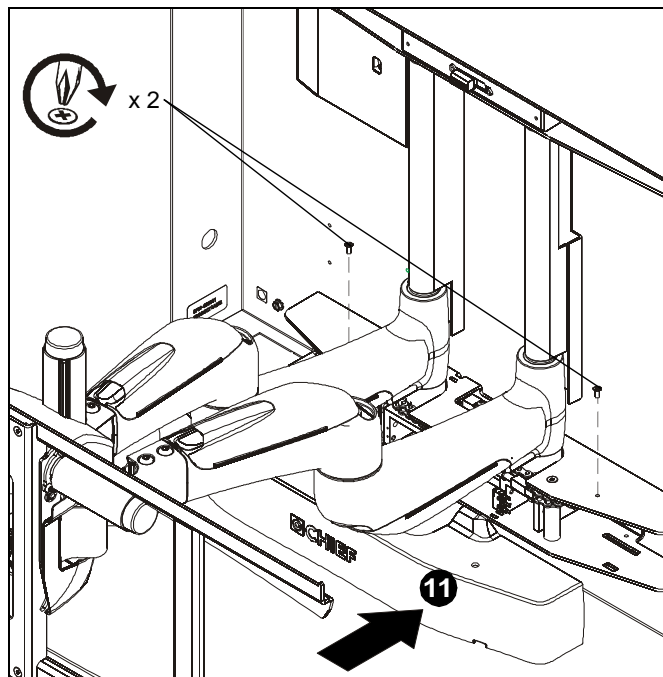

Figure 20
11. Replace lower cover and secure with two Phillips head screws removed in Step 5. (See Figure 20)